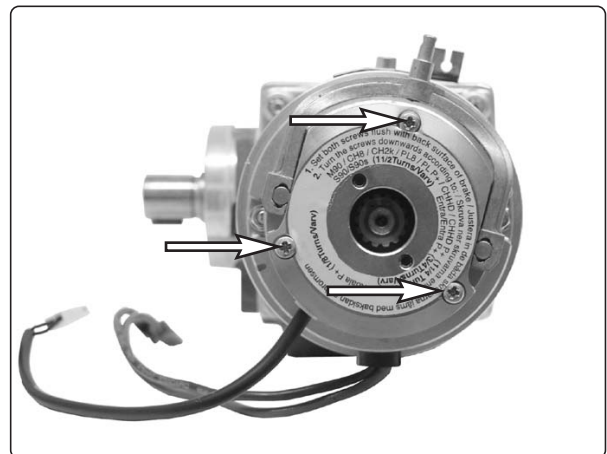

Fig.17. Magnetic brake fixing bolts.
8. Note the position of the brake release arm, see fig. 17.